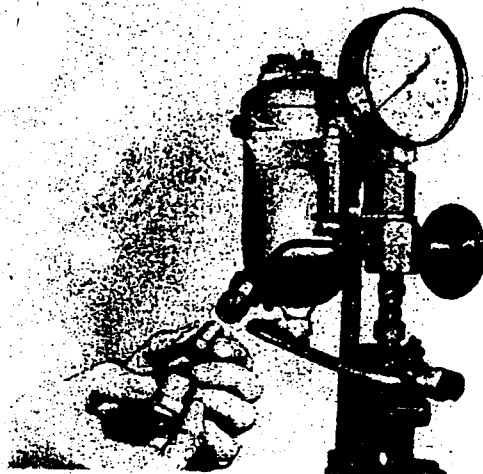

FIG. 132.
7. Assemble the nozzle into the flushing tool (ET.427) with the nozzle face towards the smaller thread connector, as shown in Fig. 132, which should then be coupled to the nozzle setting outfit (ET.122 PA). The flushing tool should be arranged with the open end pointing downwards to facilitate particles being washed out.